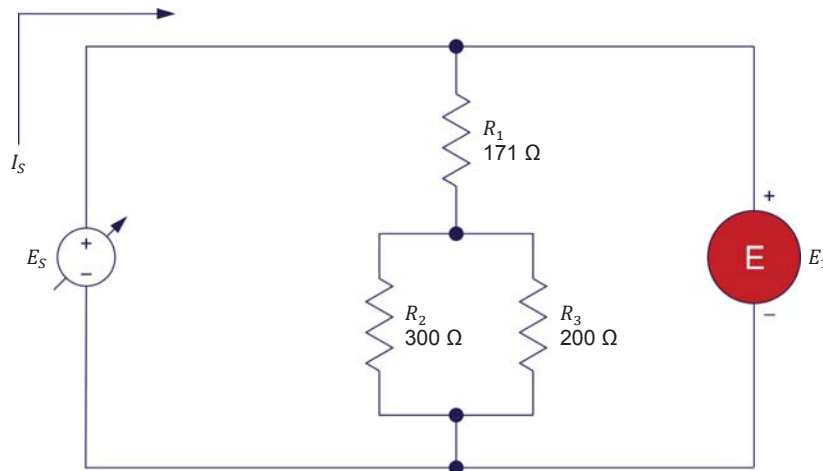

Figure 21. Determining the equivalent resistance of resistors connected in series-parallel (case 1).
13. Set up the series-parallel circuit shown in Figure 21. To obtain the resistor arrangement of Figure 21, make the necessary connection(s) and switch settings on the Resistive Load module.
14. Calculate the equivalent resistance $R_{Eq.}$ of series-parallel resistors R_1 , R_2 , and R_3 in Figure 21.
4. Refer to Figure 21. Assume that resistors R_1 , R_2 , and R_3 have a value of $300\ \Omega$, $171\ \Omega$, and $200\ \Omega$, respectively. If an additional $100\ \Omega$ resistor is connected across these resistors, will the equivalent resistance increase, decrease, or remain the same as before? Why?